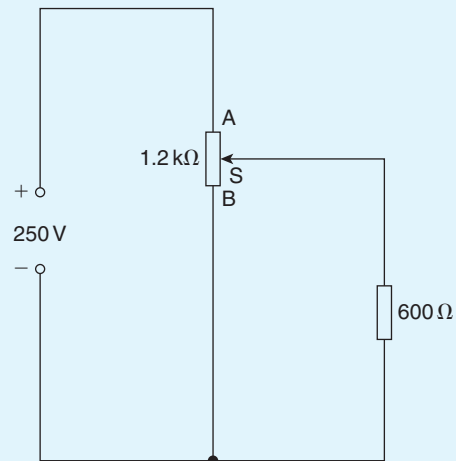

Figure 5.46
- For the circuit shown in Fig. 5.46, calculate the voltage across the $600\ \Omega$ load when point S splits AB in the ratio 1:3. [136.4 V]